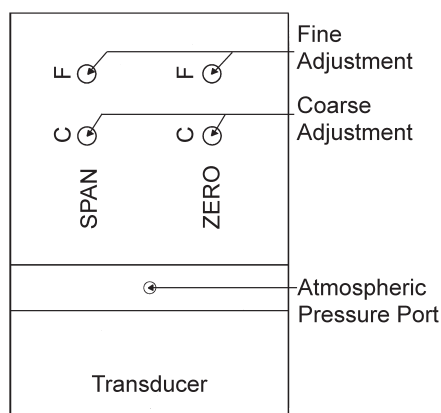

Figure 7. Points of Adjustment
- Remove the hold down strap on the Operating Control Assembly and lower the assembly until the water level in the tube exactly matches the "Base" level located in Step 2. The meter should read 4 ma, ± 0.2 ma (1 Vdc, ± 0.05). If not, adjust the **Coarse ZERO** screw (not the **SPAN**) until the desired reading is obtained (See Figure 7).